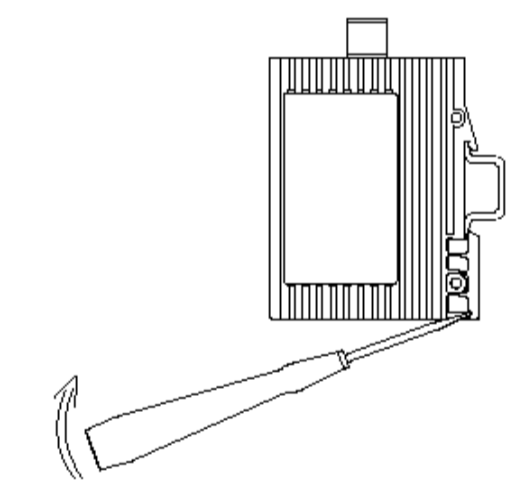

Fig. 7 : Dismantling the SPIDER 8TX-PRO
- To take the SPIDER 8TX-PRO off the ISO/DIN rail, unlock the snap-in mechanism according to Fig 7.